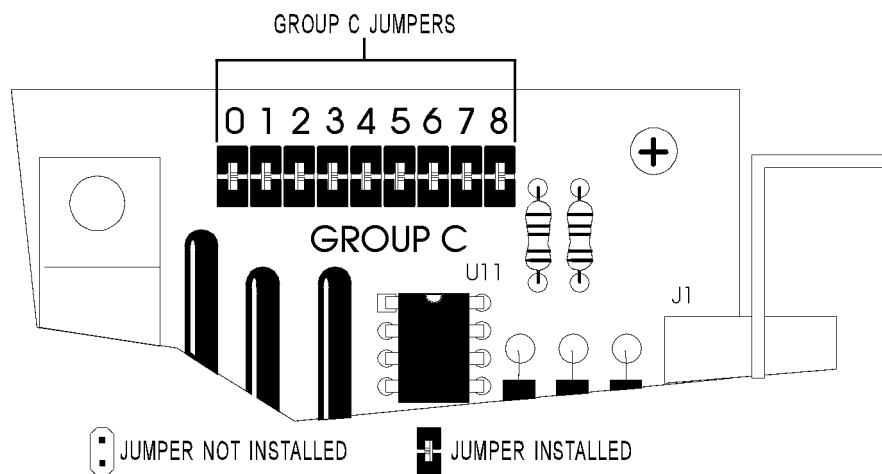

Figure 3-17: Group C Jumpers on the AC37
- All the GROUP C jumpers on the AC37 should be installed as shown in Figure 3-17.